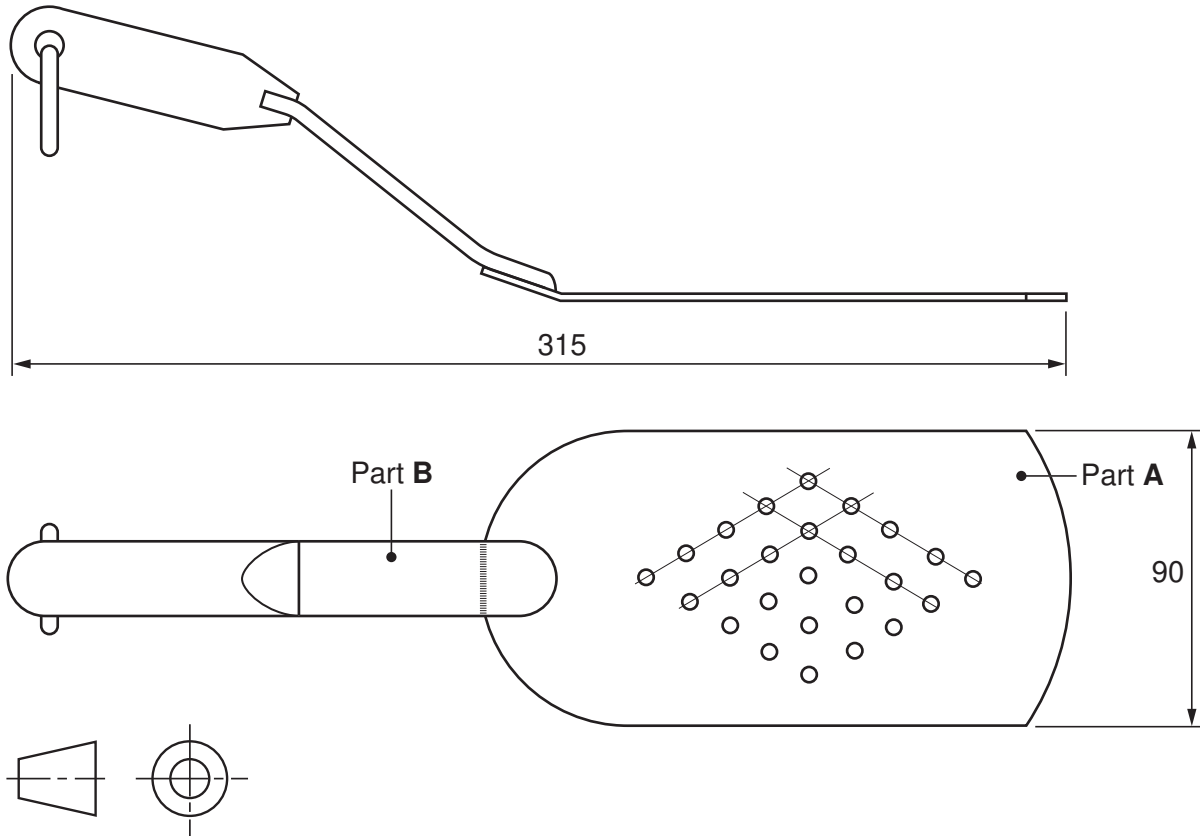

Fig. 1
- 1 Fig. 1 shows a spatula, for using on a barbecue, which is to be made in a school workshop.